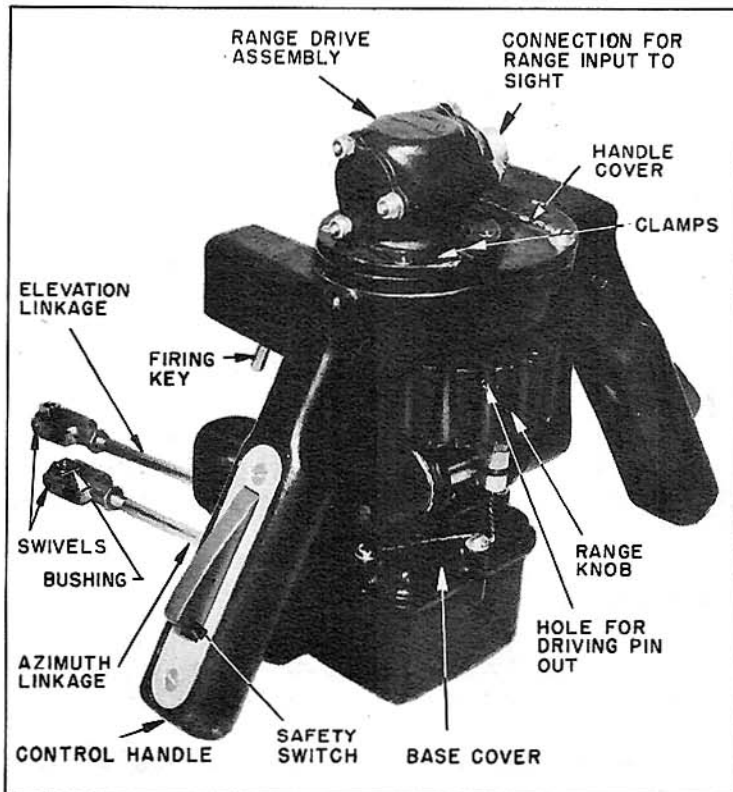
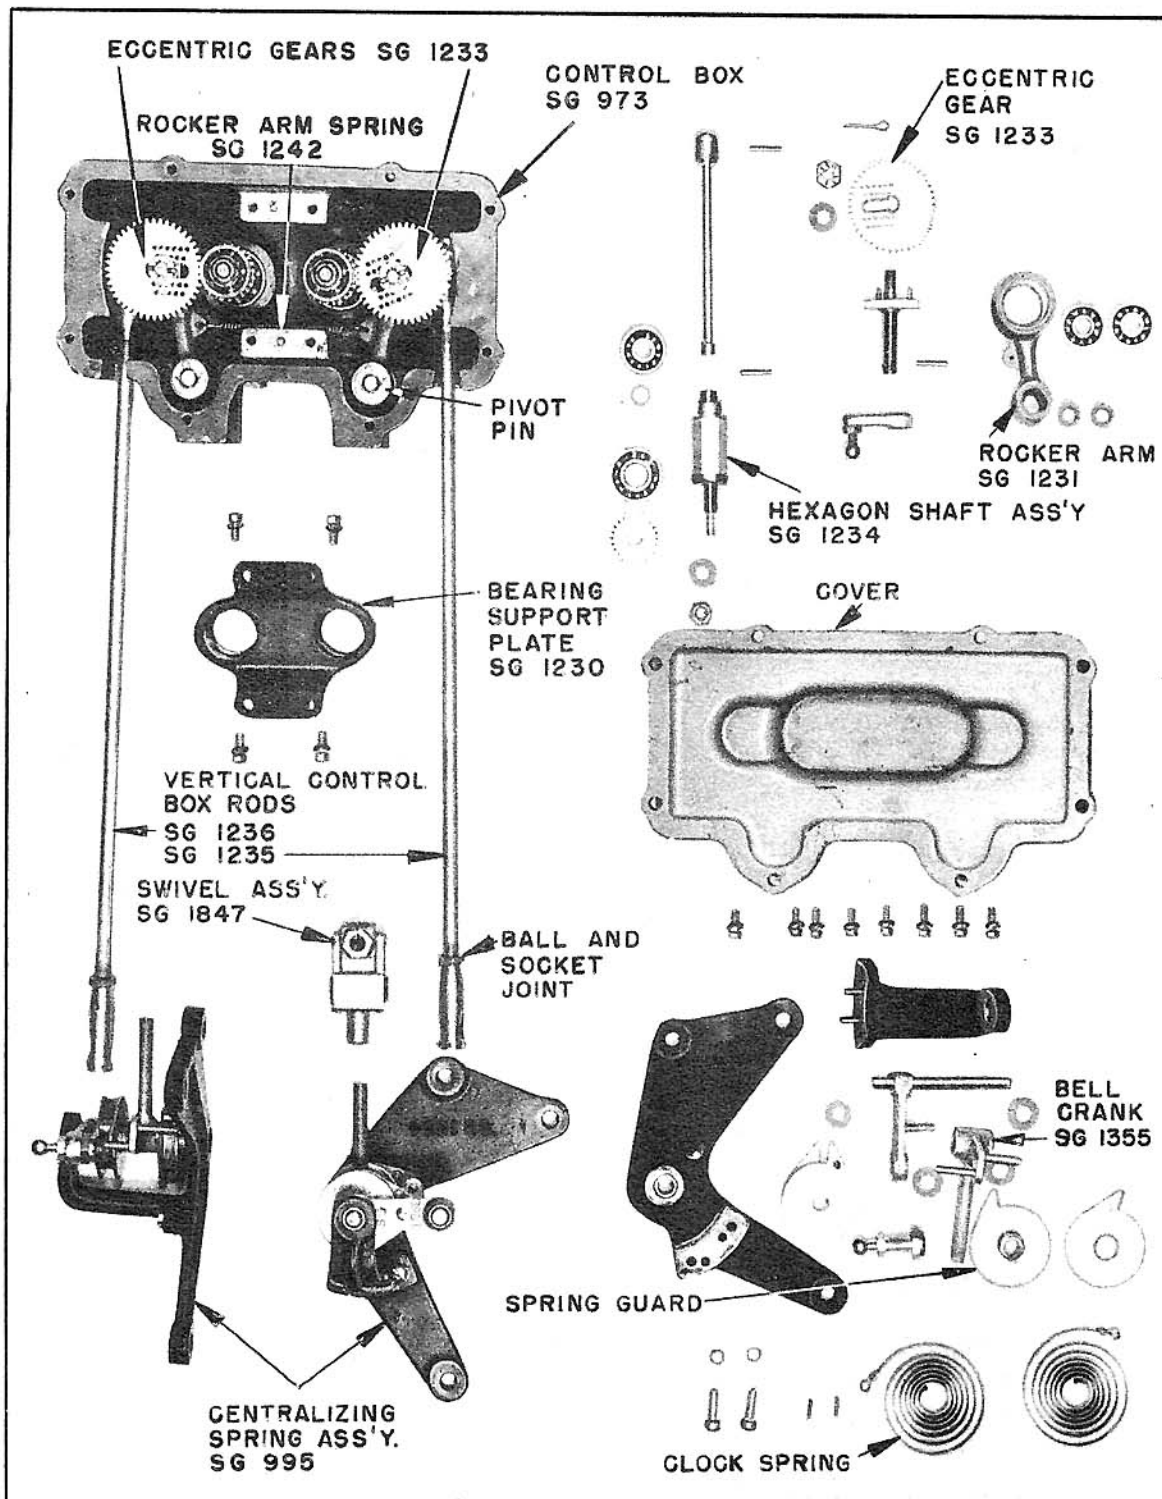

FIGURE 7
FIGURE 9
(2) Control Units. - (a) Remove check nut on bell crank (SG 1355) of centralizing spring assembly SG 995 (see Figure 9) and slip off swivels (see Figure 9) which are on the azimuth and elevation horizontal control rods extending from the hand control unit (see Figure 7).
(c) Disengage the vertical control rods from the centralizing spring assembly by removing the retainers from the ball and socket joints. (See Figure 9.)
(1) General. - (a) The hand control unit (see Figures 7 and 8) consists of several sub-assemblies, each of which may be removed separately.
2. The range knob (SG 1141) may be removed after driving out the pin (5-0 taper, 5/8" long) which fastens it to the range shaft. This pin is reached through a hole in the knob, as shown in Figure 7.
7. Reassembly procedure is exactly the reverse of that given for disassembly. Take care not to injure electrical wires when they are drawn through the casting and control handles. When replacing cotter pins in ball and socket joints, be sure that they do not cause interference, particularly between the wires and the short elevation linkage rod (SG 1261). Assemble receptacle so that heavy pins are in the forward position. Safety wire the screws on the handle and base covers as in Figure 7.
c. Control Box. - (1) (See Figure 9.) Remove the cover and then the bearing support plate, taking care not to damage the dowel pins. Remove rocker arms (SG 1231) after taking out the 2 cotter pins on the pivot pins. Remove rocker arm spring and check for tension. If necessary, remove hexagon shafts by driving out the pins which fasten the spline couplings to the shafts.
(2) If ball bearings are replaced, be sure that the side on which the manufacturer's name is stamped is on the outside. Pack open bearings with Beacon M-285 or other approved equal, low temperature grease.